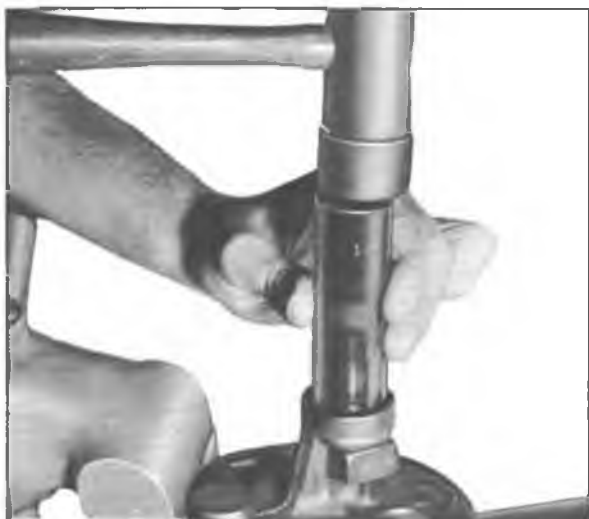

Fig. 21 – Installing Seal Using Tool J-22670
1. Install new shaft seal, using Tool J-22670 as shown in Figure 21 and insert shaft at hub end of housing, spline end entering mounting face side (fig. 22).